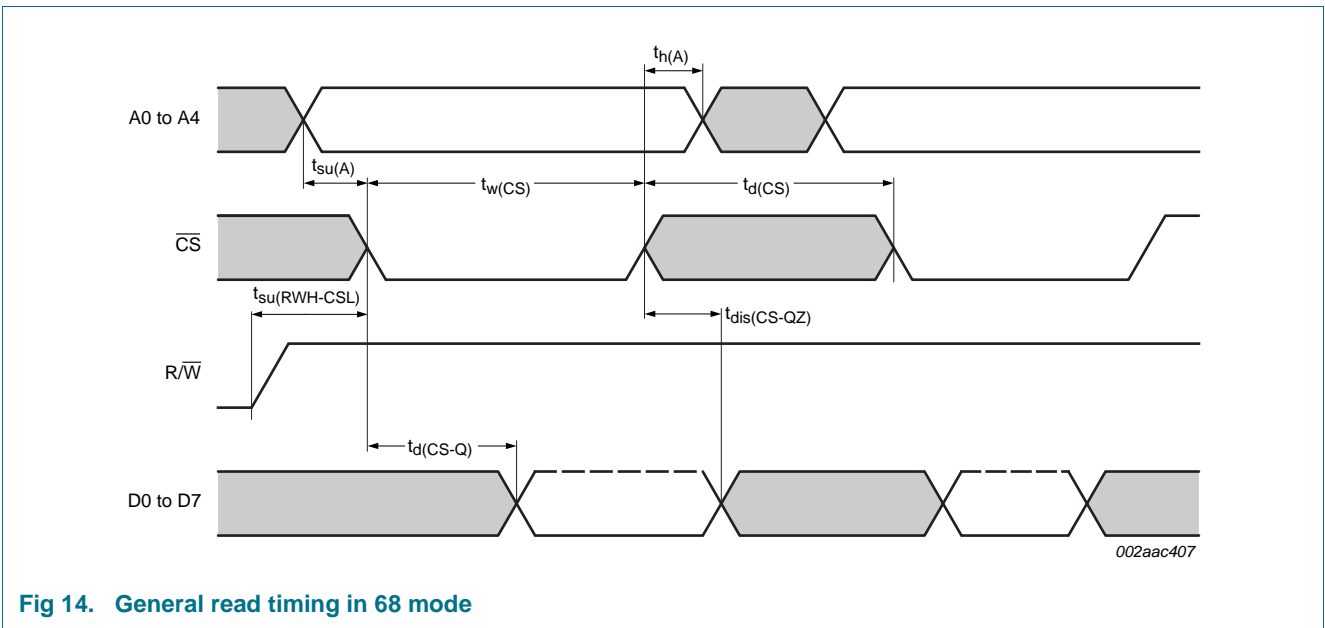

Fig 14. General read timing in 68 mode
- (2) CS timing during a read cycle. See Figure 14.